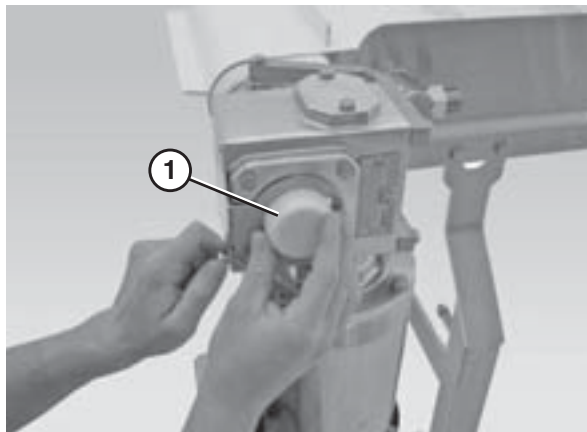

Figure 51
1. Remove the drive spindle cover (Figure 51, item 1).